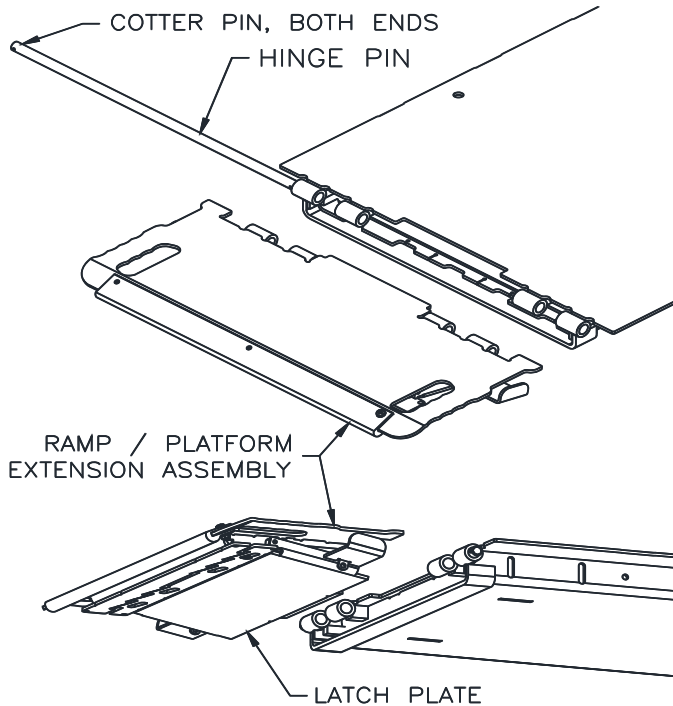

Fig. 10 INSTALLING THE RAMPS
11. Install each of the four (4) identical Ramp Assemblies using the 9/16" diameter Hinge Pin and two (2) Cotter Pins, **Fig. 10**. The Platform Extension Latch Plate should extend up inside the end of the Main Structure.